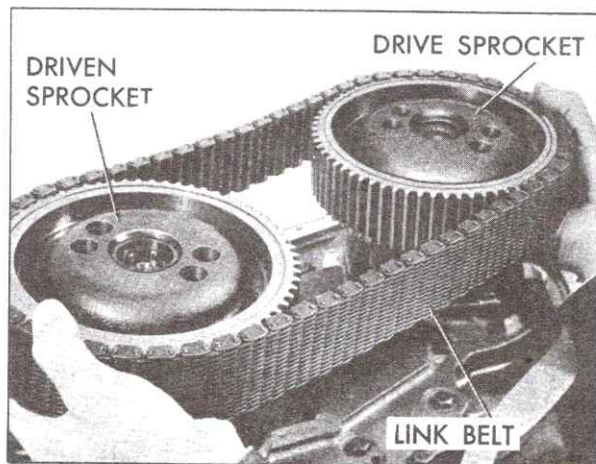

Fig. 7-148 Removing Sprockets and Link Assembly
4. Remove drive and driven sprockets, link assembly, bearings, and shafts simultaneously by alternately pulling upwards on the drive and driven sprockets until the bearings are out of the drive and driven support housings, Fig. 7-148.